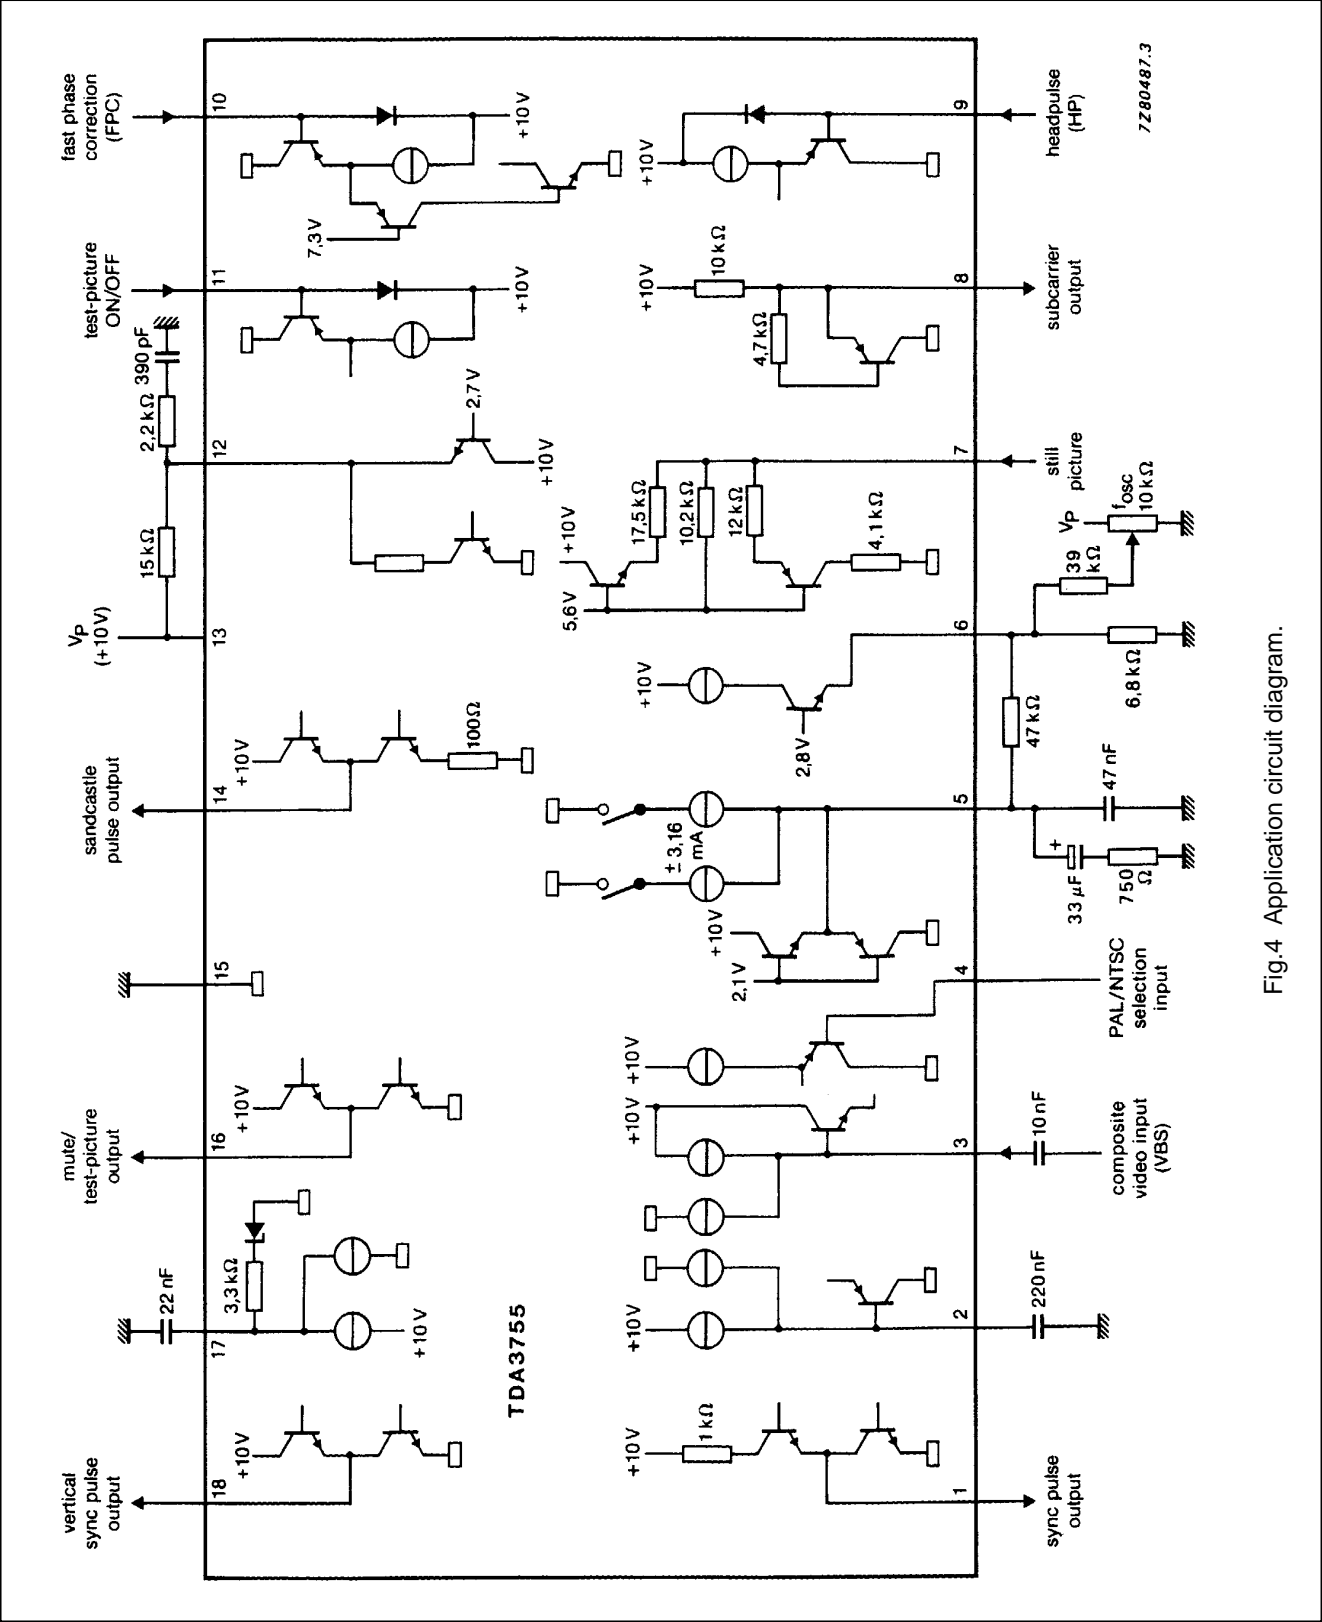

Fig.4 Application circuit diagram.
11. The timing of the upper part of the sandcastle pulse is determined by the components connected to pin 12 (Fig.4) and is independent of supply voltage variations.